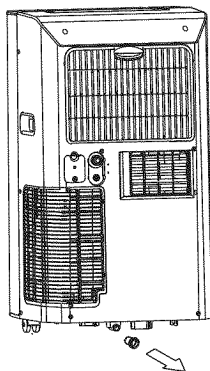

Fig.21
- When you plan to leave this unit unused for a long time, remove the bottom rubber plug from the back hole and attach a section of the continuous drain hose . All the water in the bottom tray would drain outside through the drain hose.(See Fig.21)